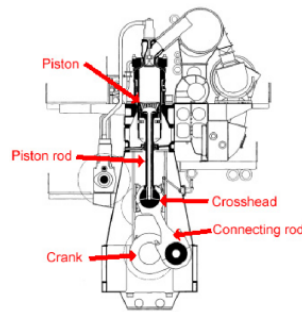

Figure 1.3
- Figure 1.3 - Another mechanism where we have an additional **piston rod** between the piston and the connecting rod, coupled with a **crosshead**. This avoids the side forces on the piston due to the connecting rod movement. It is commonly used in large engines where side forces would produce too much wear (marine engines for example).